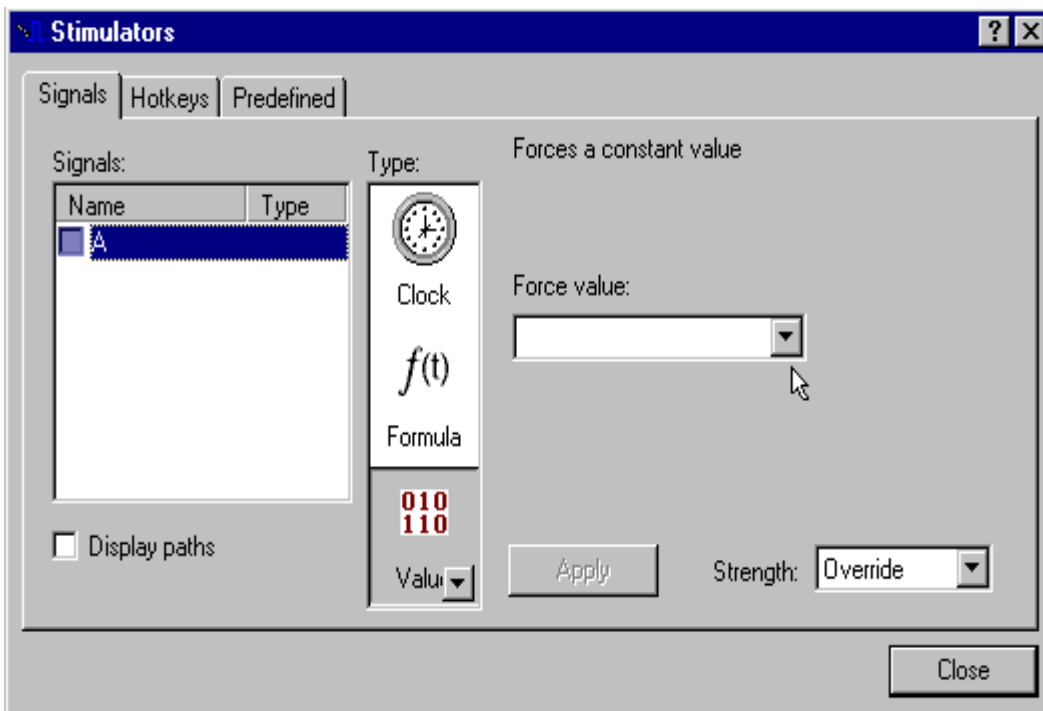

Figure 48
2. Select the desired value from the “Force value” field (see Figure 48 on the next page).